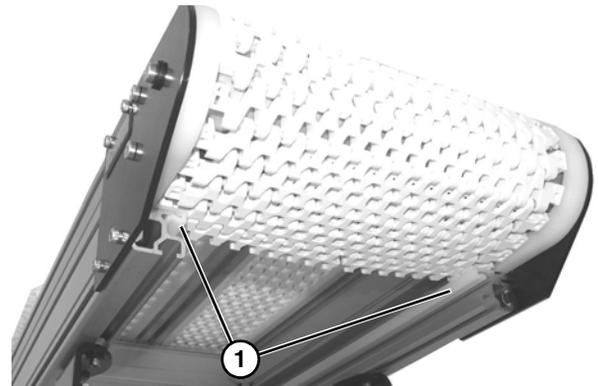

Figure 8
3. Install belt around lower frame section and above lower wear strips (Figure 8, item 1).